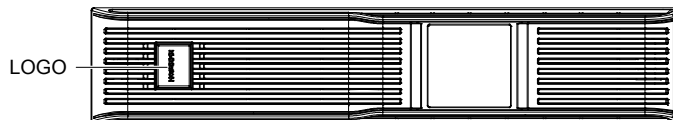

Figure 2-5 The rotation of LOGO is completed
3. Pull the LOGO on the front plastic bezel cover gently, rotate it 90 degrees clockwise and snap it back into position. After rotation, the front plastic bezel cover is shown in Figure 2-5.